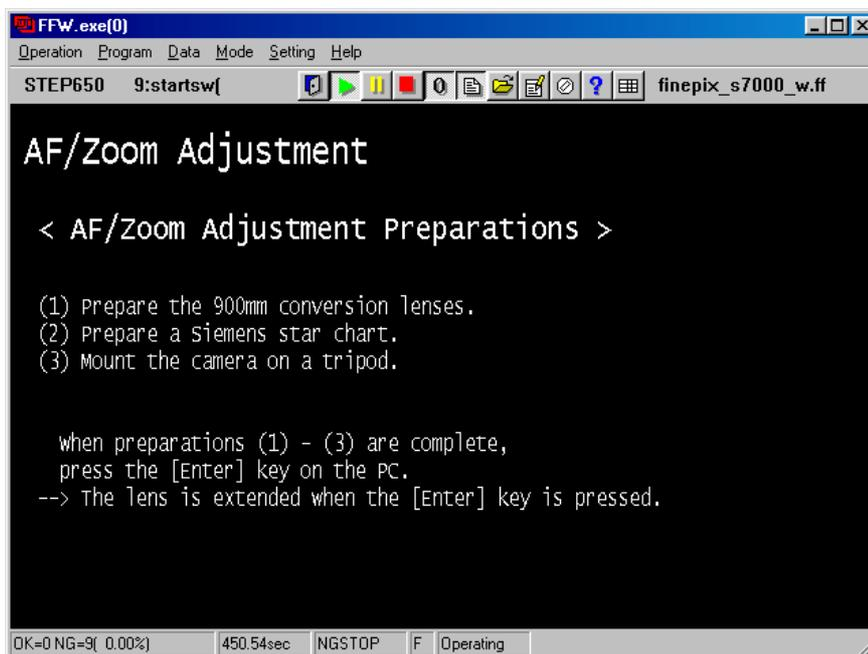

Fig.22
---> The **[AF Adjustment Preparation Screen (Fig.22)]** appears.